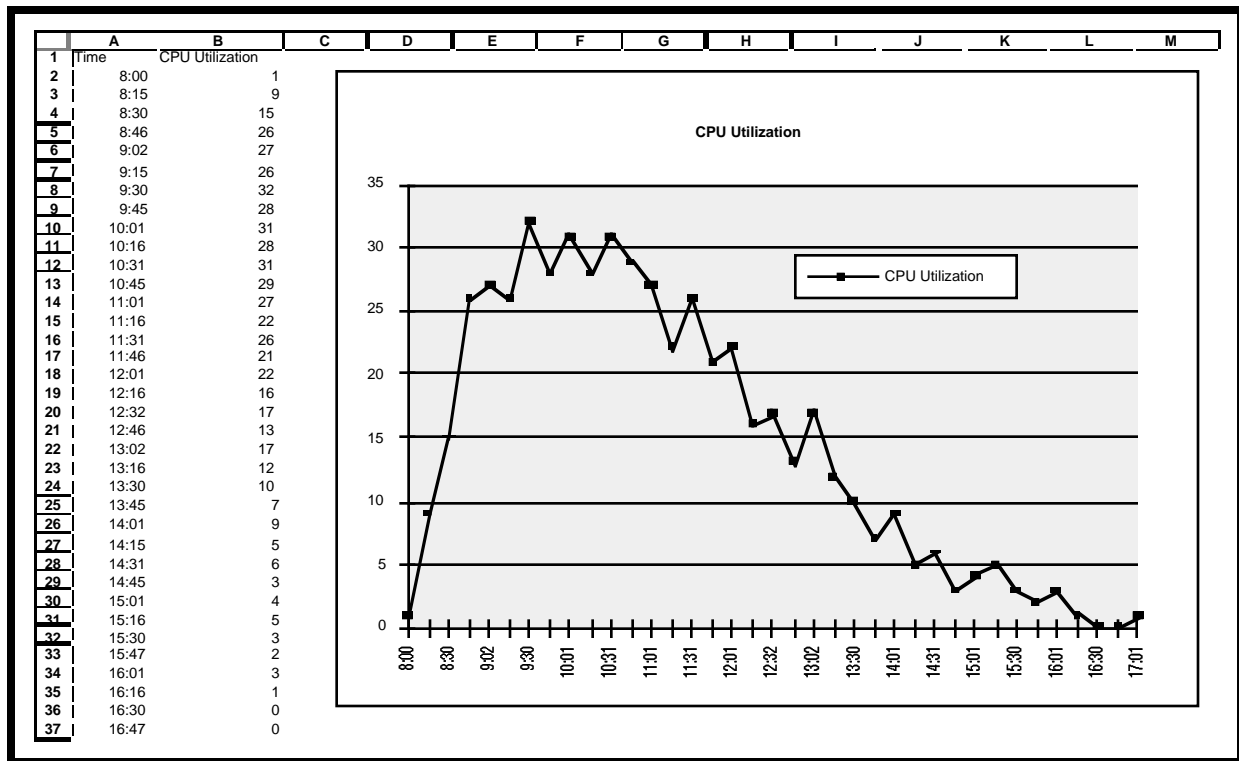

Figure 5. Example of HP OpenView Graphical Display of CPU Usage
- HP OpenView – permits use of a menu path (e.g., **Performance→CPU Load**, **Performance→Graph SNMP Data→Selected Nodes . . .**) to obtain graphical displays of system performance measures (e.g., interface traffic, CPU usage) on a time line (see example in Figure 5).